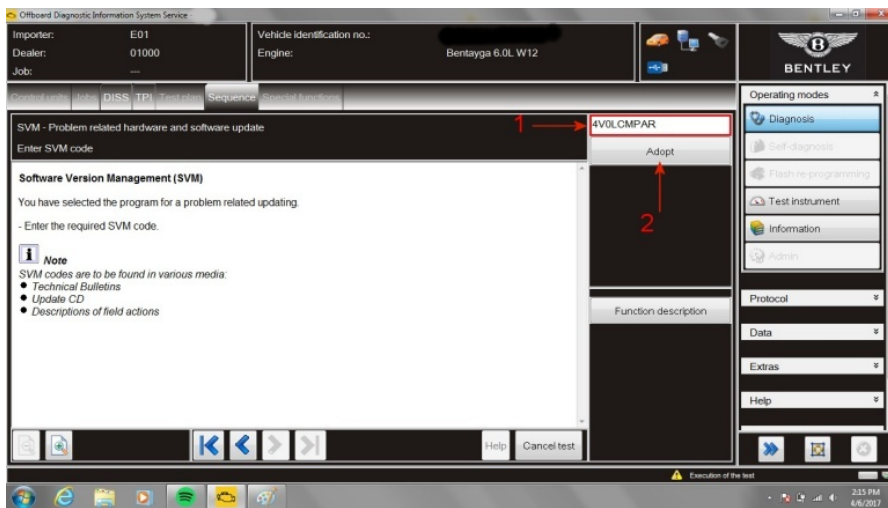

Figure 3
9. At SVM screen enter (1) the specific SVM code 4VOLCMPAR and then *Adopt* (2) (see Figure 3)